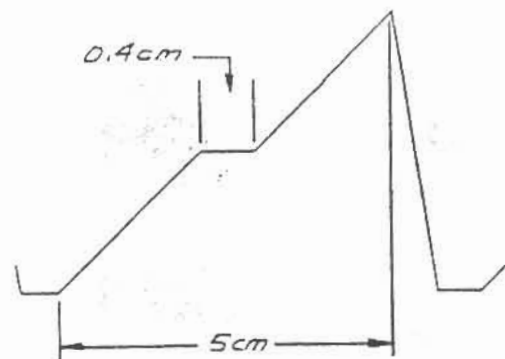

Figure 4-7 Sweep Dwell Waveform
12. Set the horizontal time base to internal SWEEP and adjust the horizontal time base vernier for a 5cm Sweep Time display. See Figure 4-7.
13. Observe that an approximate 0.4 cm step occurs at the center of the sweep as shown in Figure 4-7. If an 0.4 cm step is not observed, adjust the Dwell Adj potentiometer R341.